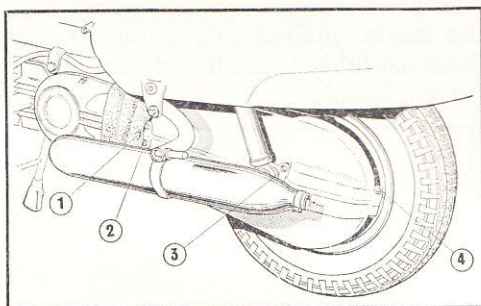

Fig. 42
Pull back rubber sleeve, (1, Fig. 42), remove screws (2) (3) and (4) and take off the chaincase.